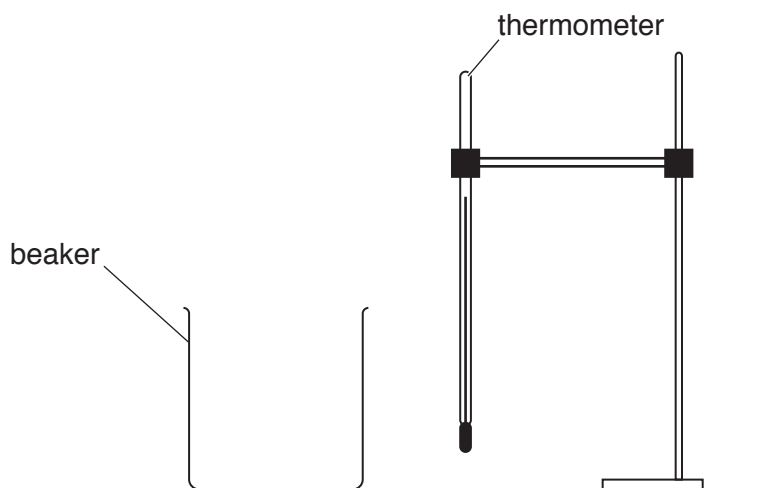

Fig. 1.1
1. The thermometer, clamp, boss and stand are to be set up for candidates as shown in Fig. 1.1. The thermometer bulb must be well below the 100 cm³ level of the beaker. Candidates must be able easily and safely to read temperatures up to 100 °C and to move the thermometer in and out of the beaker.
Empty the water from the beaker. Check that the apparatus is intact and is arranged as in Fig. 1.1. Spare lids, labelled **A** and **B**, must be available.